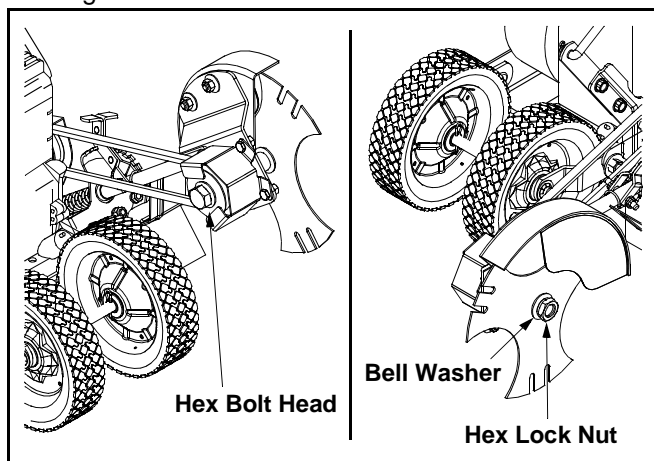

Figure 16
- Use two wrenches (one wrench to prevent the hex bolt head from spinning and the other to remove the hex lock nut) to remove the edger blade. See Figure 16.